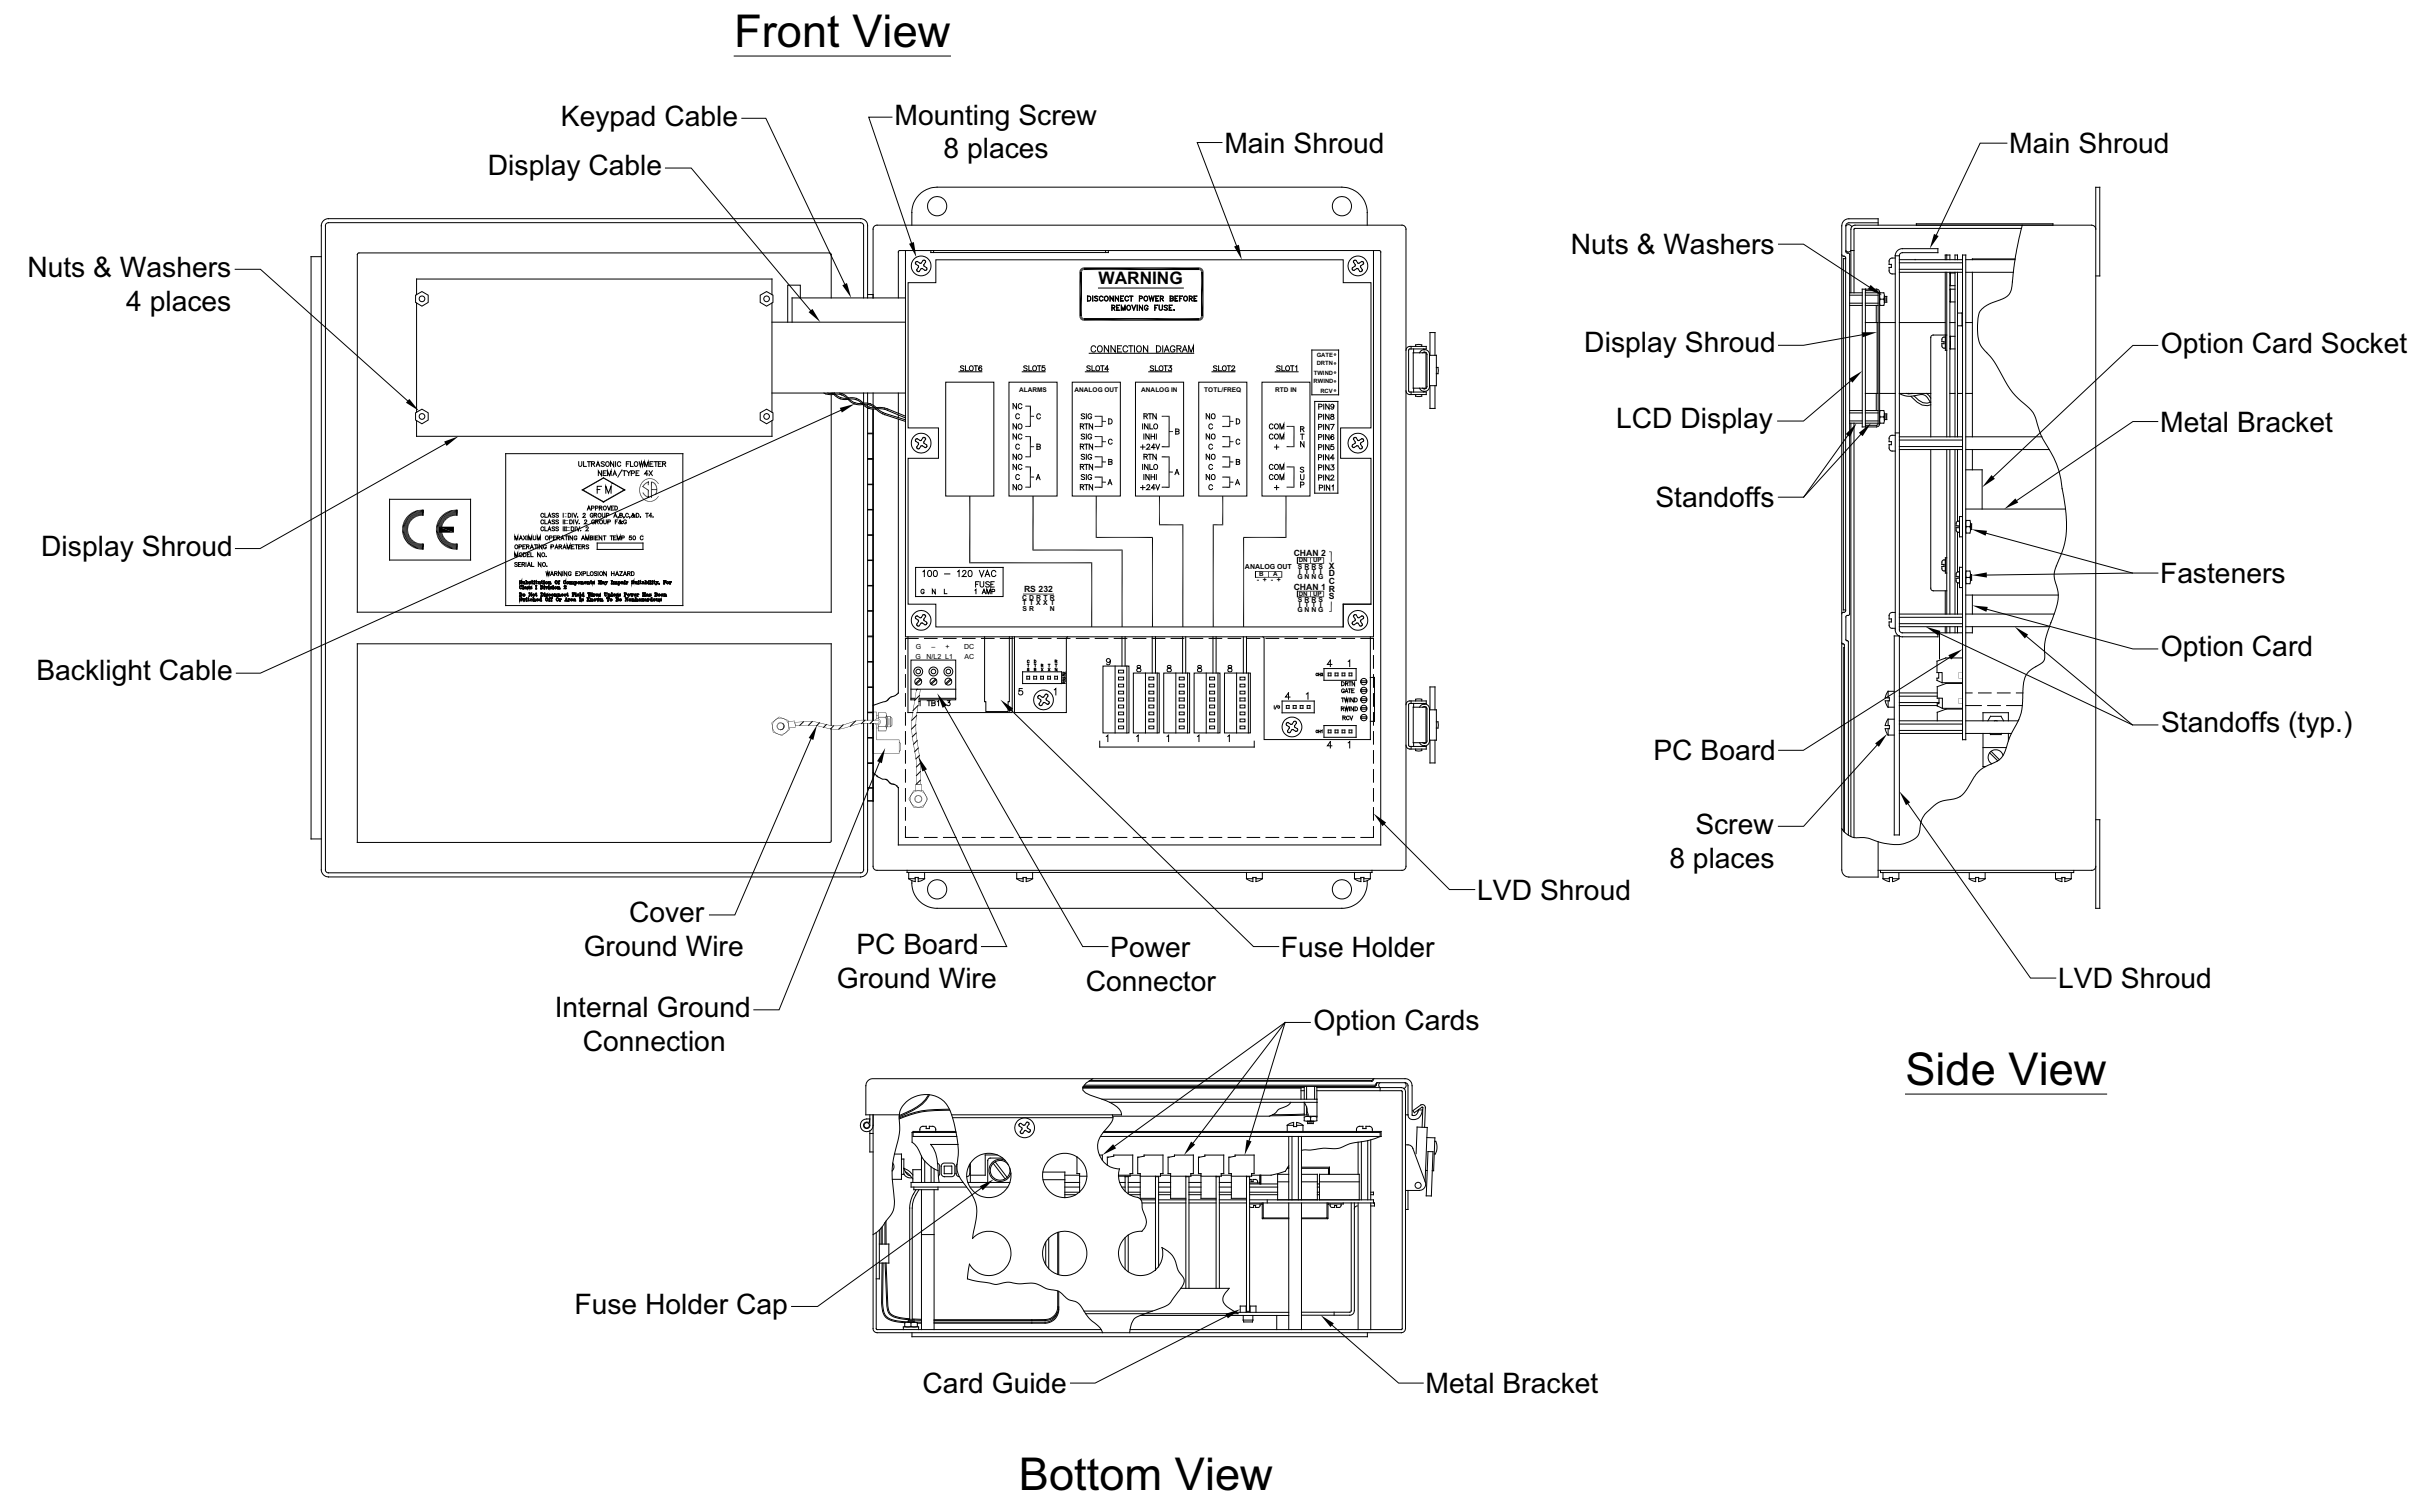
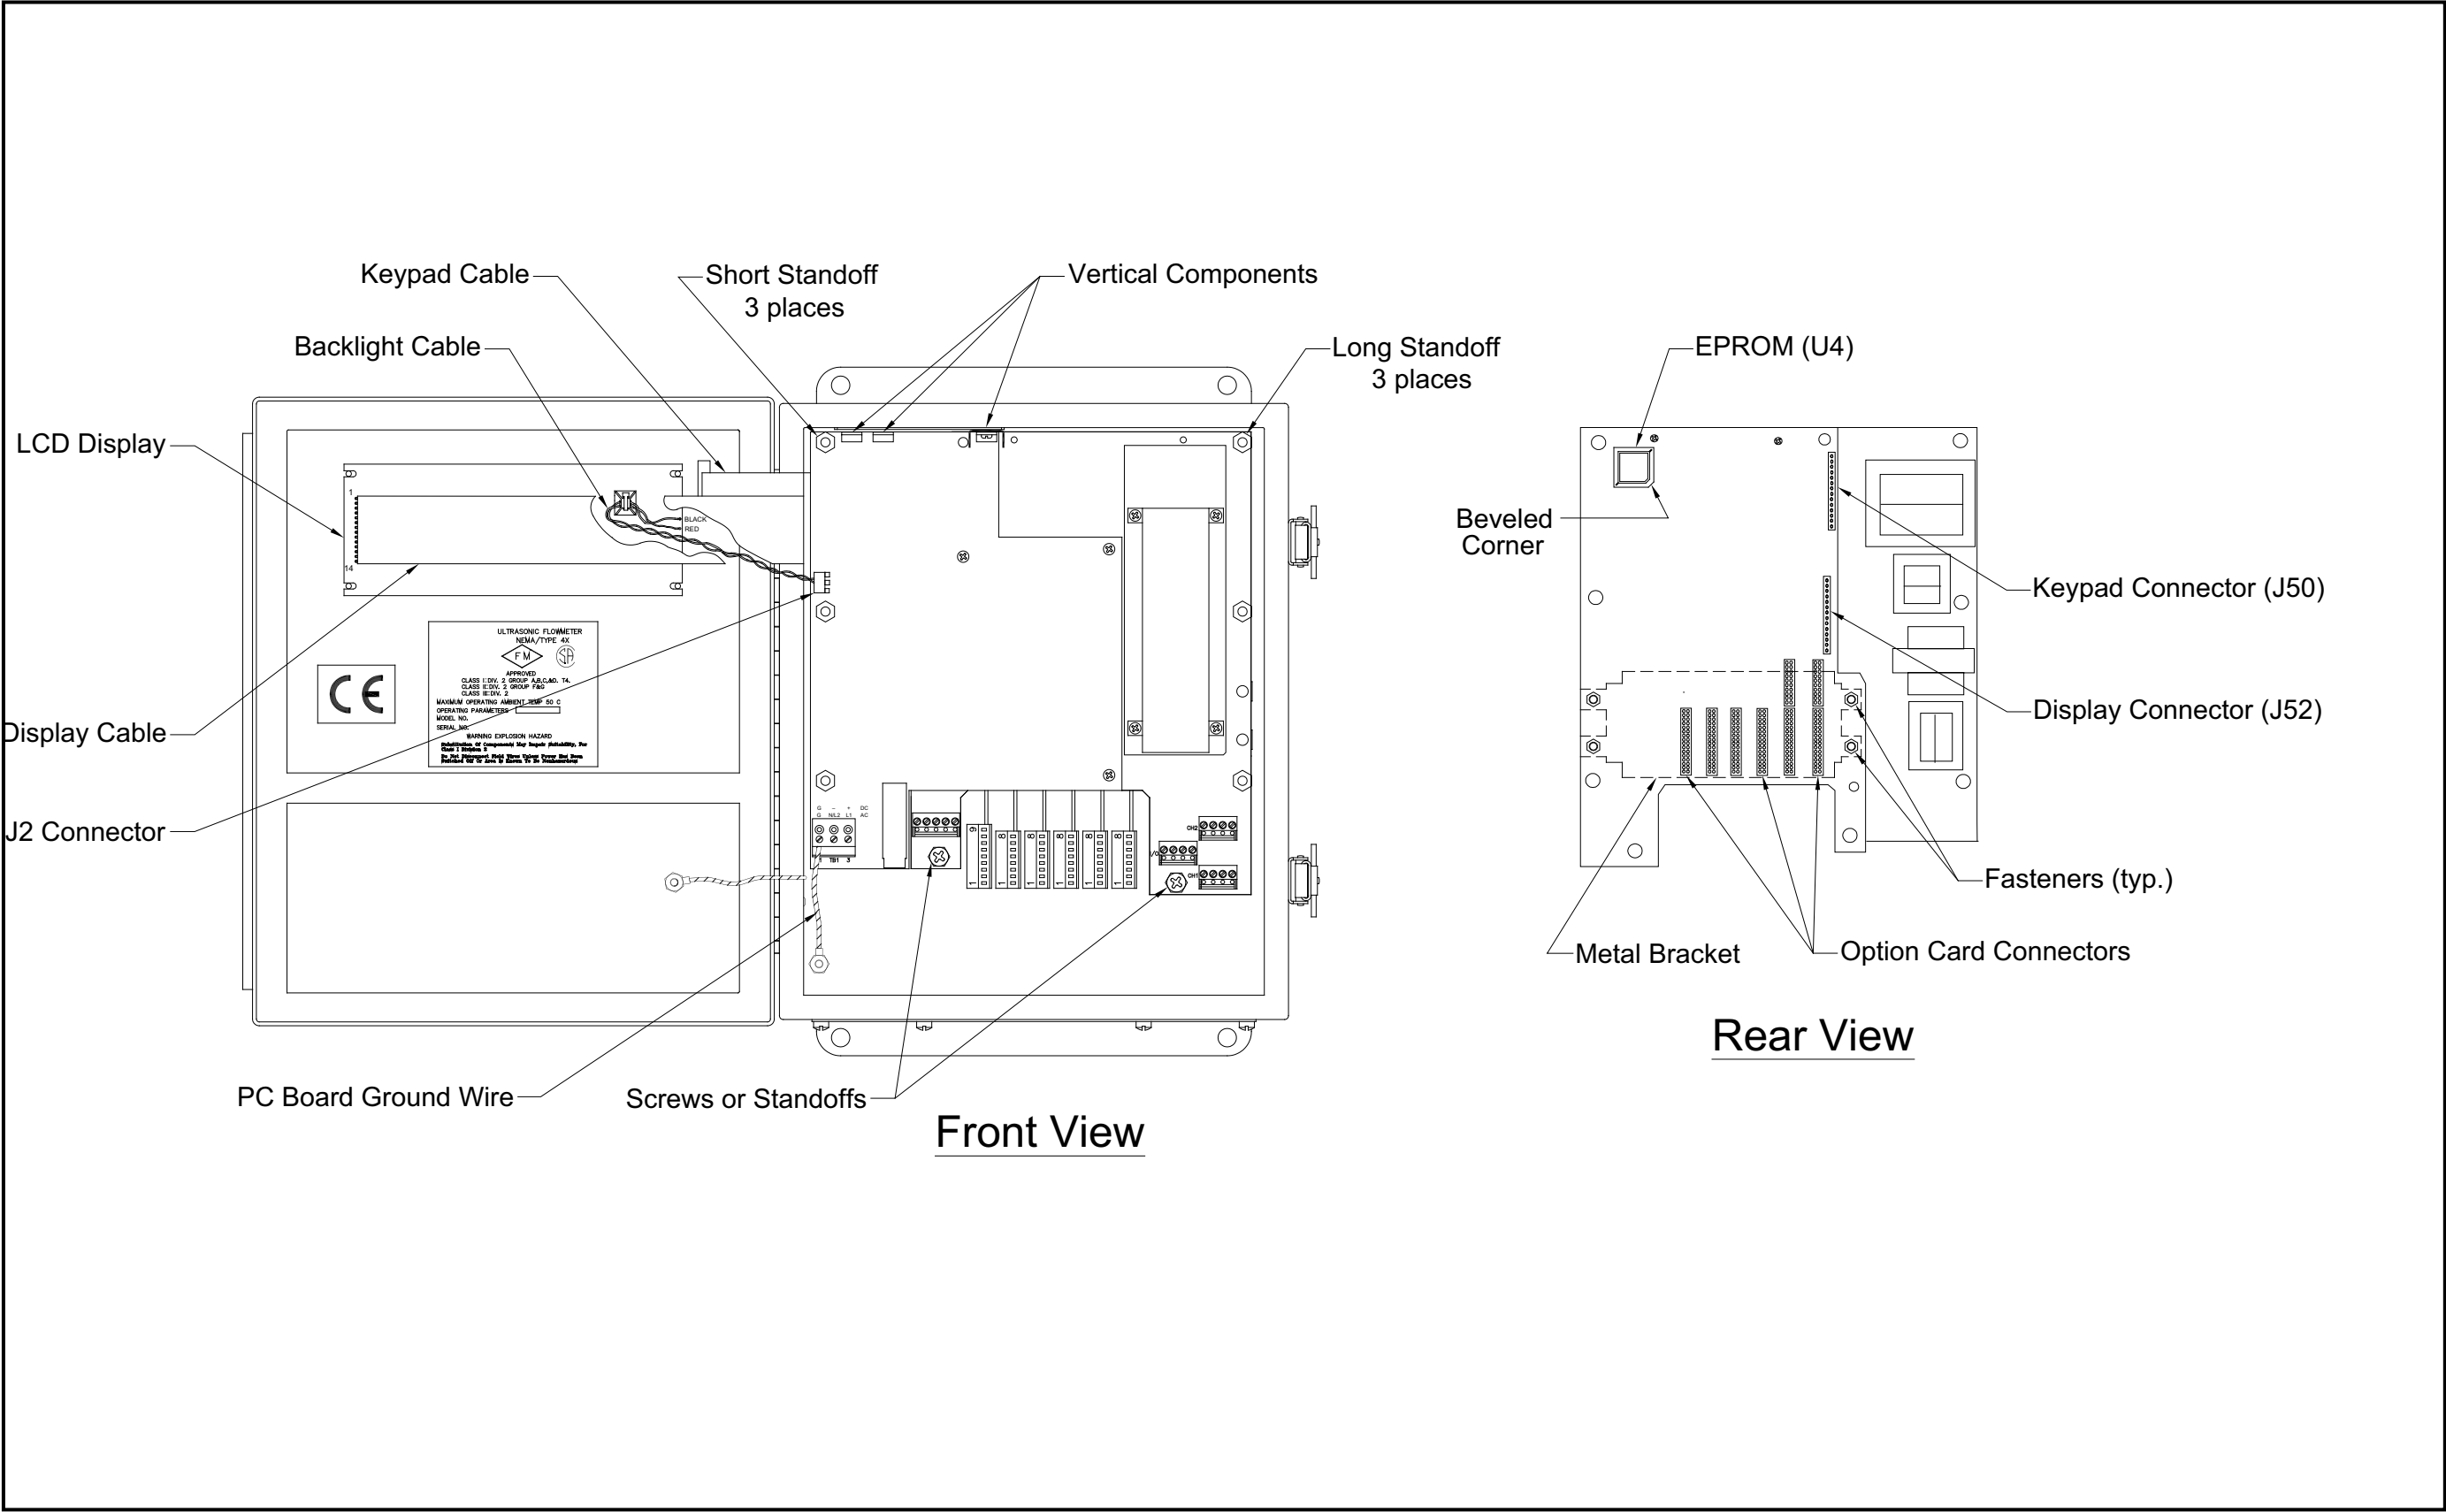

Figure 8: Standard Model GS868 - Electronics Console Assembly
Figure 9: Standard Model GS868 - Printed Circuit Board Assembly
All of the remaining procedures require removal of the printed circuit board. To accomplish this task, refer to *Figure 8 on page 37* and *Figure 9 on page 38* while completing the following steps:
CAUTION! Be very careful not to damage the vertical components along the top edge of the printed circuit board (see *Figure 9 on page 38*). Severe or repeated bending of these components will break their leads.
The Model GS868's *User Program* is stored on an erasable programmable read only memory (EPROM) chip. The EPROM, which is designated as component **U4**, is located in the top left corner of the rear of the printed circuit board. See *Figure 9 on page 38* for a rear view of the printed circuit board.
To install an option card, refer to *Figure 9* on page 38 and complete the following steps:
5. Place the metal bracket over the option cards, making sure that all option cards are aligned with the plastic card guides in the bracket. Secure the metal bracket to the printed circuit board with the plastic snap rivets provided. Refer to the installed assembly in *Figure 8* on page 37.
The Model GS868's measurements are displayed on a two-pane LCD graphic display panel. The LCD display normally provides years of dependable service, but it is easily field-replaceable when necessary. To replace the LCD display, see *Figure 8 on page 37* for the component locations, and complete the following steps:
4. Place the new LCD display assembly over the mounting studs on the console cover and fasten it in place with the four standoffs. Make sure that the LCD display assembly is oriented as shown in *Figure 9 on page 38*.
Whether the printed circuit board was removed for replacement or for one of the other procedures discussed in this chapter, reinstallation of the printed circuit board is the final step in the process. Refer to *Figure 8 on page 37* and complete the following steps:
1. Position the printed circuit board within the electronics console with the top edge tilted forward. Insert the display ribbon cable and keypad ribbon cable connectors into their sockets on the rear of the printed circuit board. See *Figure 8 on page 37* and *Figure 9 on page 38* to identify the cables and sockets. Note that the keypad cable connects to the upper socket and the display cable connects to the lower socket.
During this procedure, be very careful not to damage the upright components along the top edge of the printed circuit board (see *Figure 9 on page 38*). Severe or repeated bending of these components will break their leads.